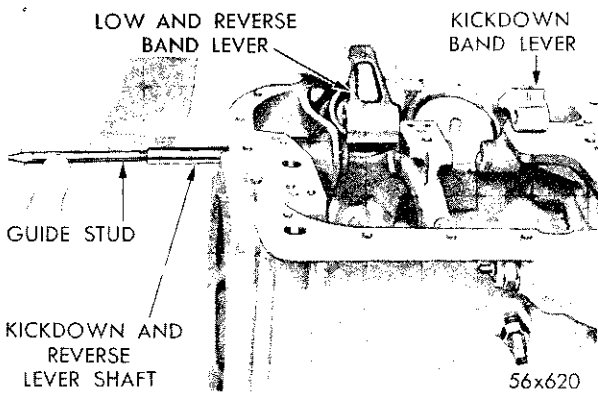

Fig. 47—Removal and Installation of Kickdown and Reverse Lever Shaft
- (1) Remove the kickdown and reverse lever shaft stop plug at rear of transmission case.
- (2) Using pliers, remove kickdown and low-reverse shaft lever spacer (flat).
- (3) Thread a guide stud, Tool C-3288, into shaft and remove shaft from case, as shown in Figure 47, and remove the kickdown and low-reverse servo levers.